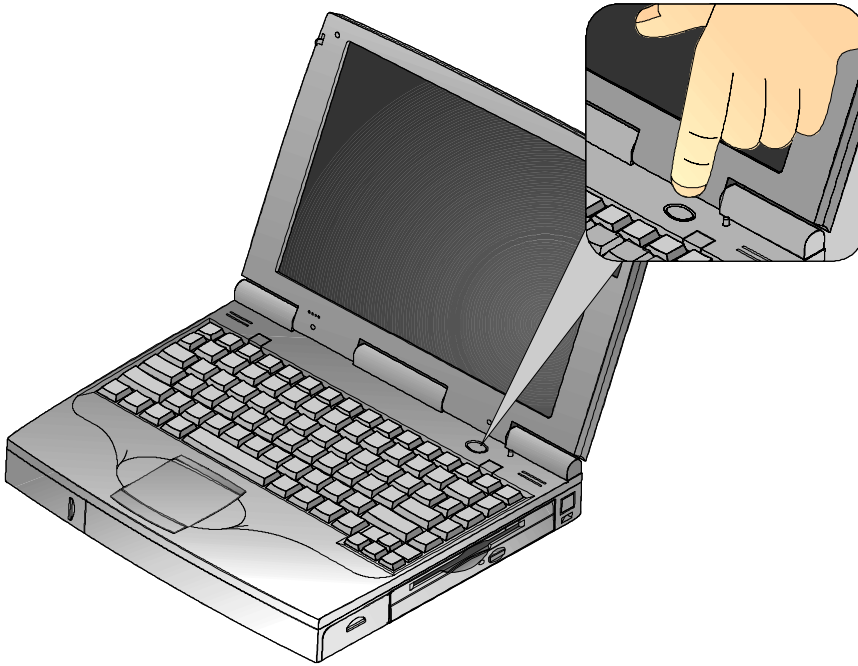

Figure 1-7: Turning On the Notebook
4. After you have plugged the notebook into its power source, open the LCD lid and press the Suspend/Resume (Power) button to turn the notebook on (Figure 1-7).